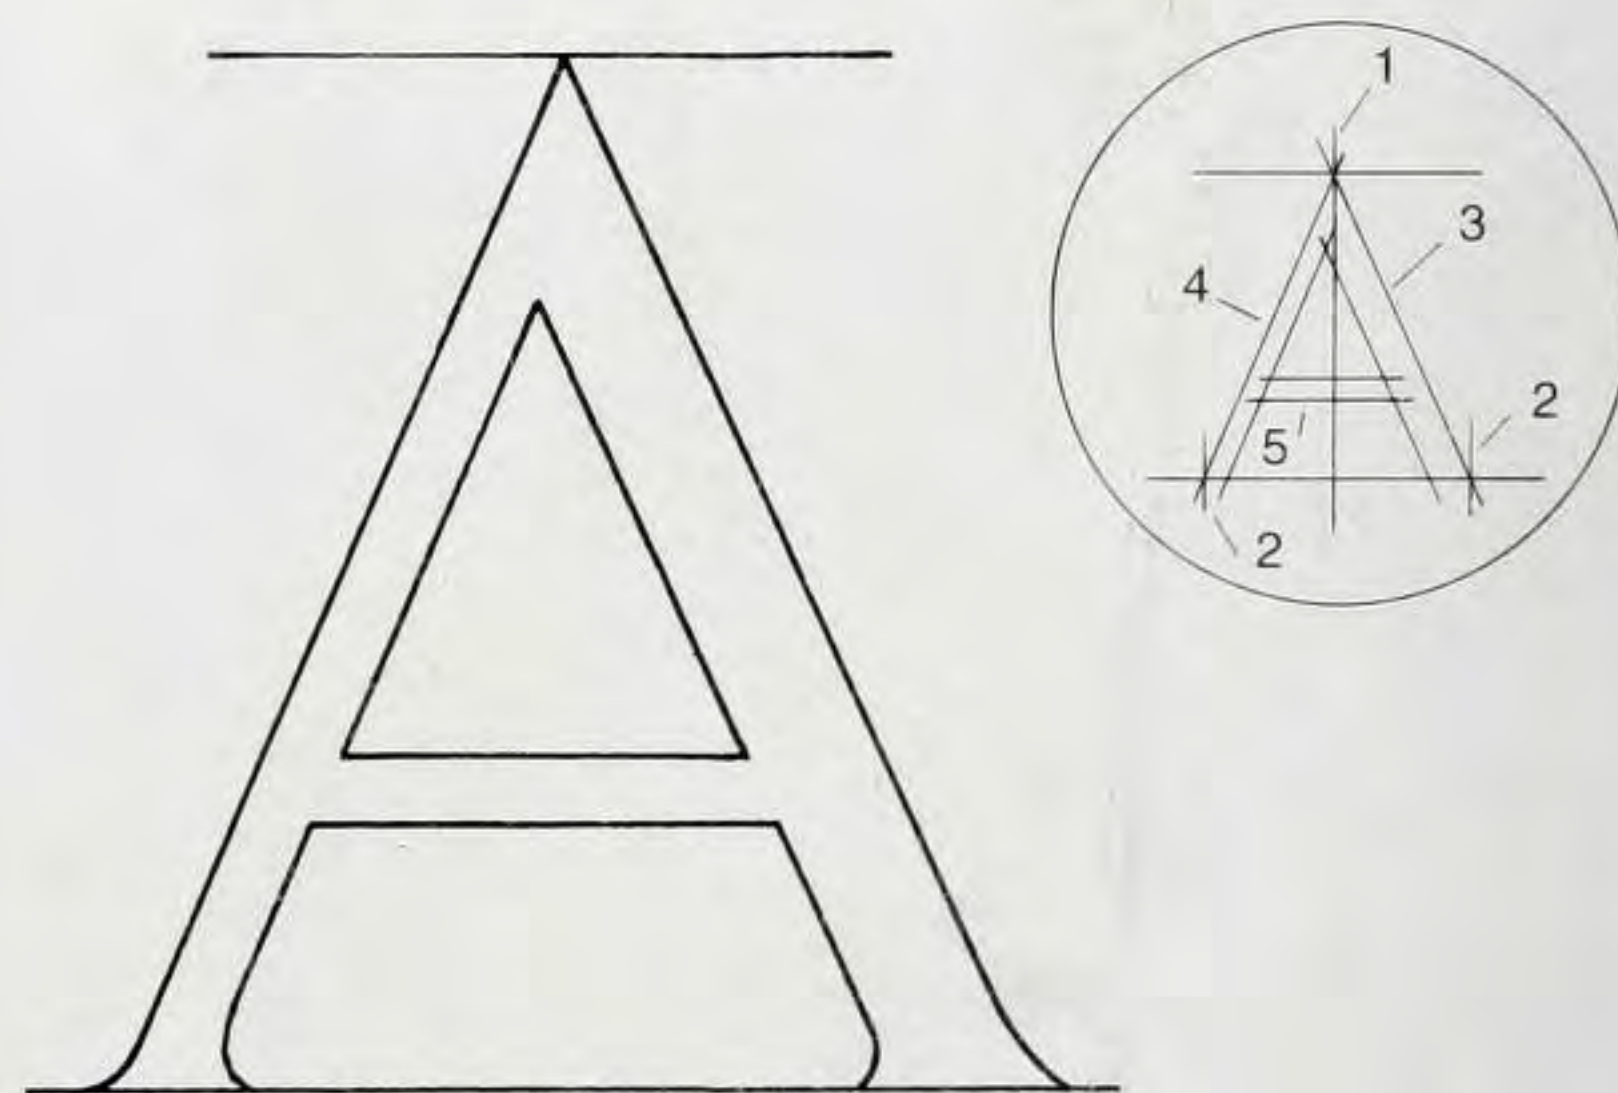

Fig 5.49 A: construction.
- 1 With the wood grain horizontal, draw the letter A between cap and base lines (see Fig 5.49).
- 2 The size of chisel you need for obliques must take into account the serif (similar to other straight cuts) and the junction. Choose a width that falls short of the two points, as shown in Fig 5.50). If you are following Fig 5.49 and making your letters 50mm (2in), then you will require a 40mm (1⁵/₈in) wide chisel.